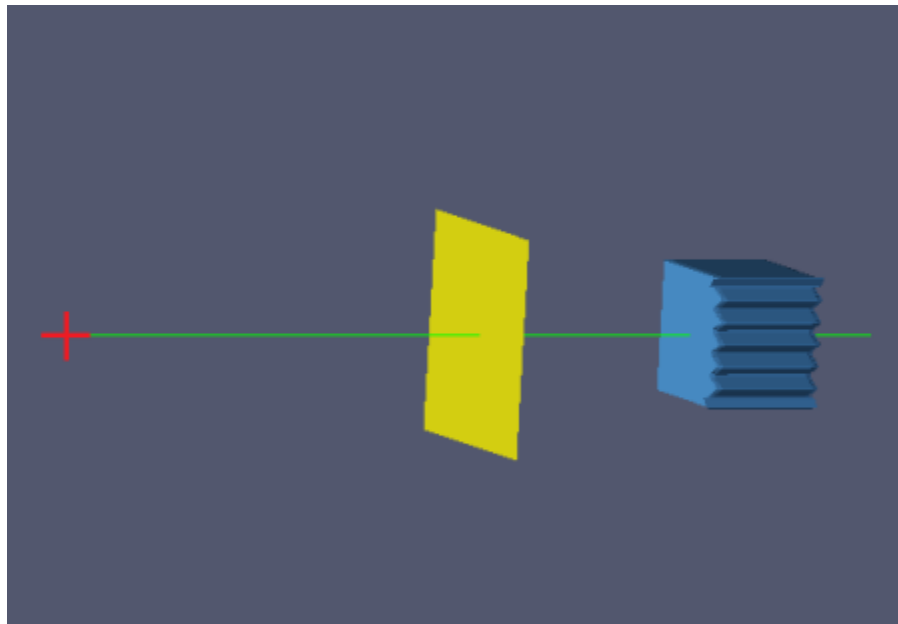

Fig. 3: Source (Red), Beam (Green), Aperture Plane (Gold), and Target (Blue)
1. figure 3: shows the beam setup of the example aperture